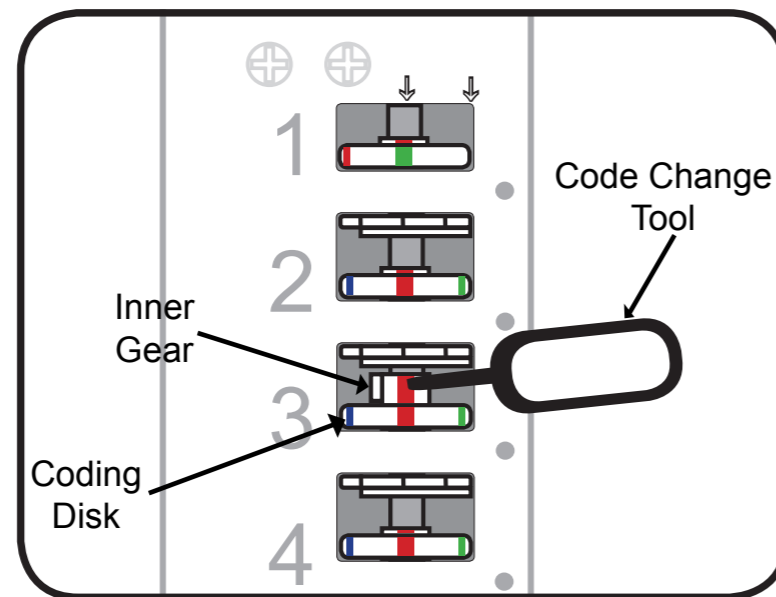

Fig.5
4. Choose what the unit wants to be coded to. To change how a button is set in the code – insert the code change tool (**part no.12**) into the small hole in the top of the inner gear and then it can be lifted upwards, this will expose a red line on the inner gear (as per fig.5).